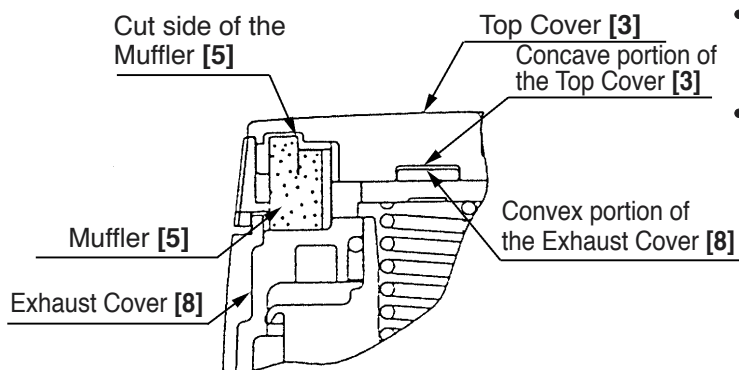

Fig. 14
- Matching the cut side of the Muffler [5] to the Top Cover [3], mount the Muffler [5] without curling it (Fig. 14).
- Mount Gasket (A) [9] so that its hole matches the blowhole of the Body Ass'y [22].